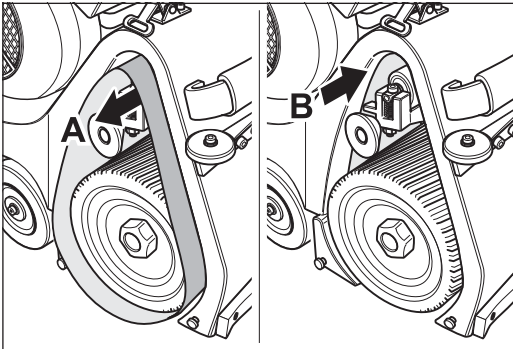
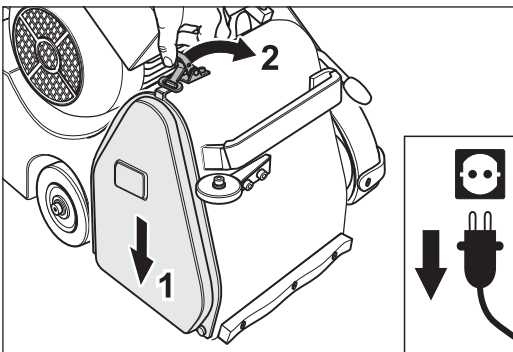

Fig. 77 If the sanding belt runs in direction of **A** or **B**, the setting of the sanding belt regulation is necessary.
Fig. 78 Mount the side cover.
- 5 If the sanding belt runs to the front (towards **A** in Fig. 77) or to the back (towards **B** in Fig. 77) the setting of the sanding belt regulation is necessary (➔ *Section 7.3.2, Setting the sanding belt tracking*). If the sanding belt tracking is alright, mount the side cover (Fig. 78).
If the sanding belt is running out of true (in direction of **A** or **B** in Fig. 77), it must be turned around and another test performed.
If the sanding belt runs to the front (in direction of **A** in Fig. 77) and after turning over runs to the back (in direction of **B** in Fig. 77) or vice versa, the sanding belt is of poor quality and is **not usable** (conical sleeve)!
- 9 After successful setting of the sanding belt tracking mount the side cover (Fig. 78).